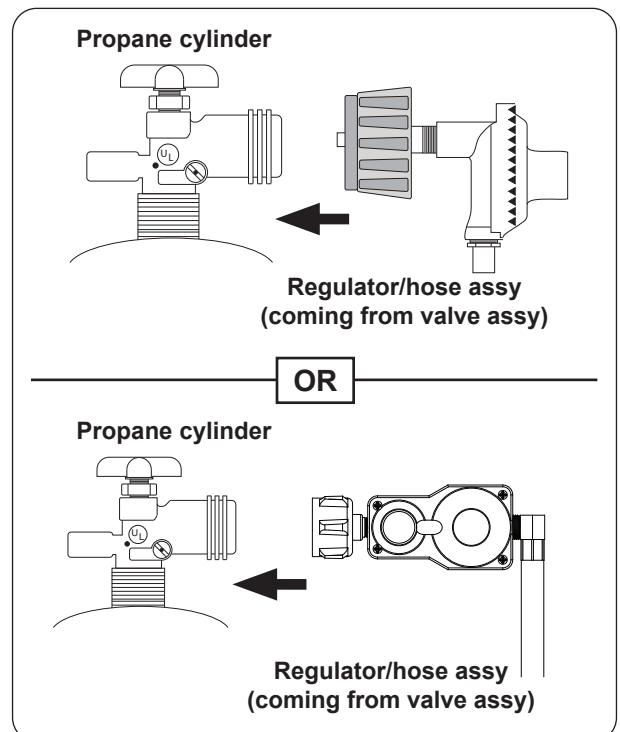

Fig. 29-2 Connecting hose assy to L.P. cylinder
2. Attach the regulator end of the hose assembly to a propane cylinder (not included) and tighten (see Fig. 29-2).